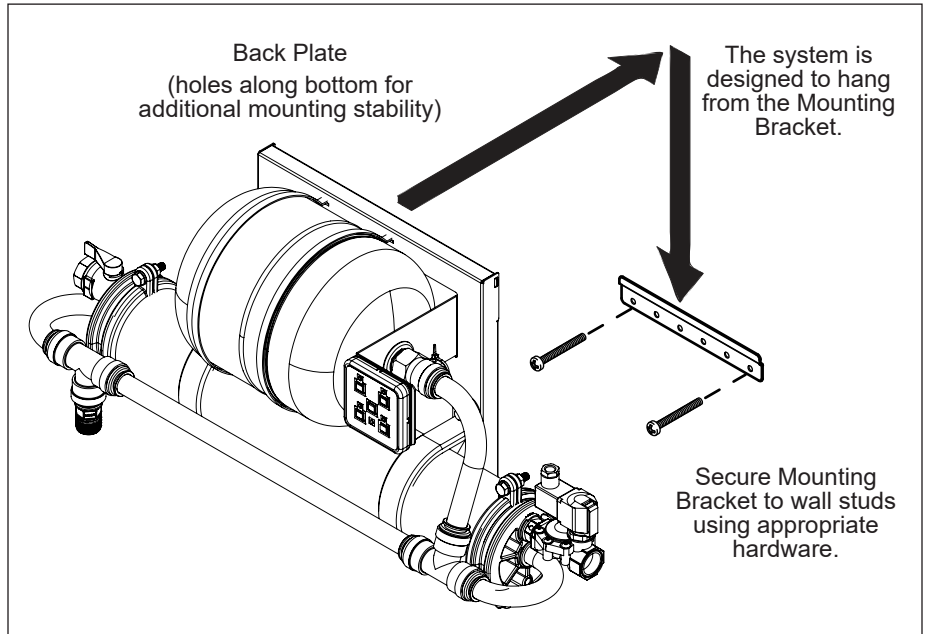

Figure 2. Mounting the System
1. Use a stud finder and level to attach the Mounting Bracket securely to the wall with the appropriate mounting hardware (Figure 2).
2. The Mounting Bracket is designed so that the VZN system can be lifted and hung on the Mounting Bracket. With assistance, lift the system and seat it onto the Mounting Bracket securely (Figure 2).
1. Install the Mounting Bracket **horizontally** as shown in Figures 2 and 2A.